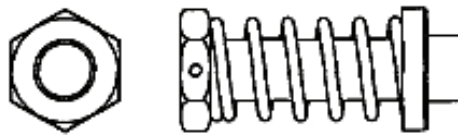

Figure 2. Dust Caps
12. **DUST CAPS.** Protective covers are more commonly called dust caps. The purpose of dust caps is to prevent dirt from entering connectors, pin and sockets and to protect coupling device from damage (Figure 2).